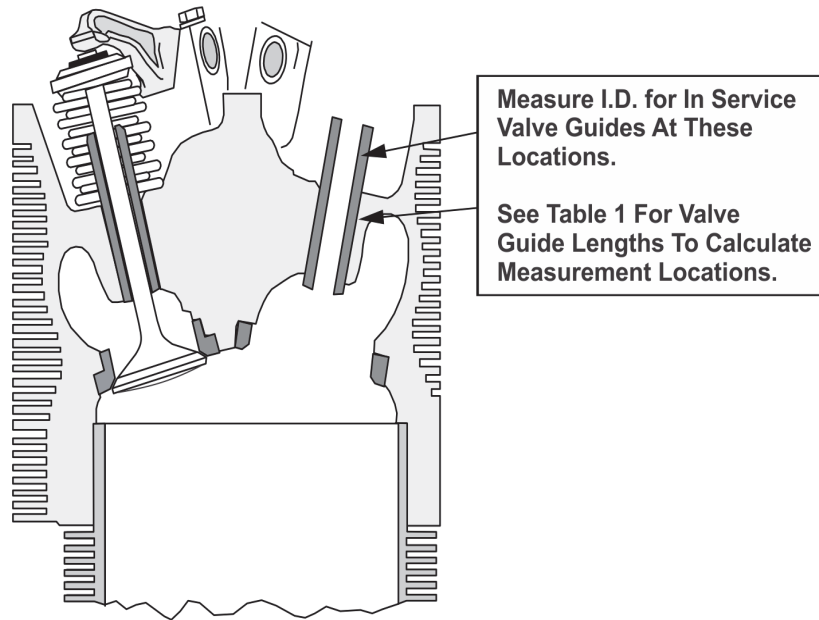

Figure 1. Dimensional Measurements, In Service Valve Guide
2. During cylinder repair, measure the valve guide inside diameter in the upper 1/3 and center 1/3 areas of the valve guide length, reference Figure 1 and Table 1. Measurements taken at the bottom (lower 1/3 area) of the intake and exhaust valve guide are not indicative of the overall serviceability of the valve guide.